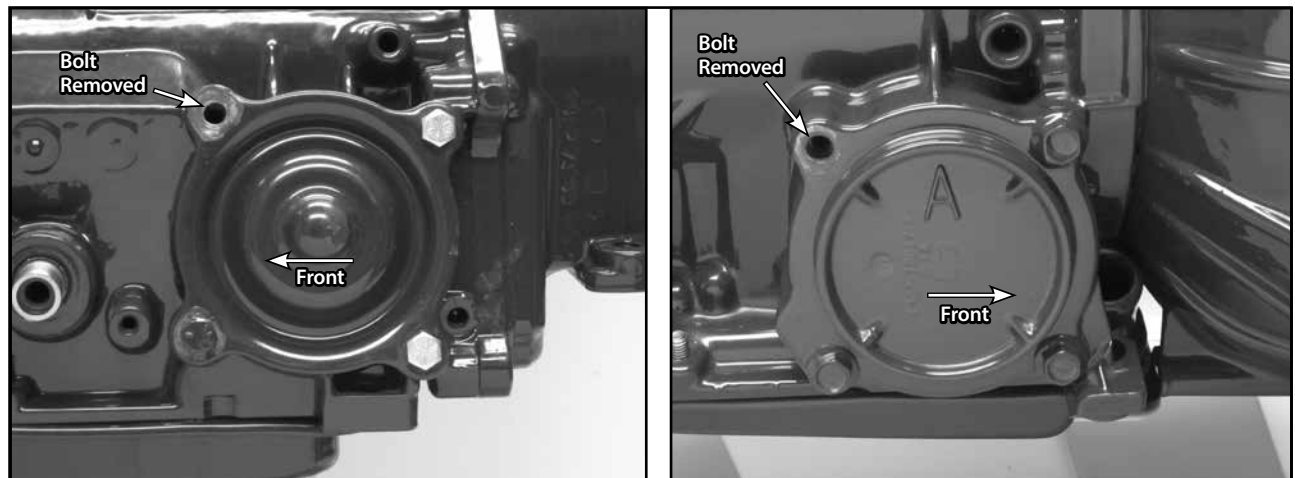

Fig. 3
Step 4: On the left side of the transmission, there is a servo cover that has 4 bolts holding it on. Remove the top front bolt. On the right side of the transmission, there is also a servo cover that has four bolts holding it on. Remove the top rear bolt. **Fig. 3**